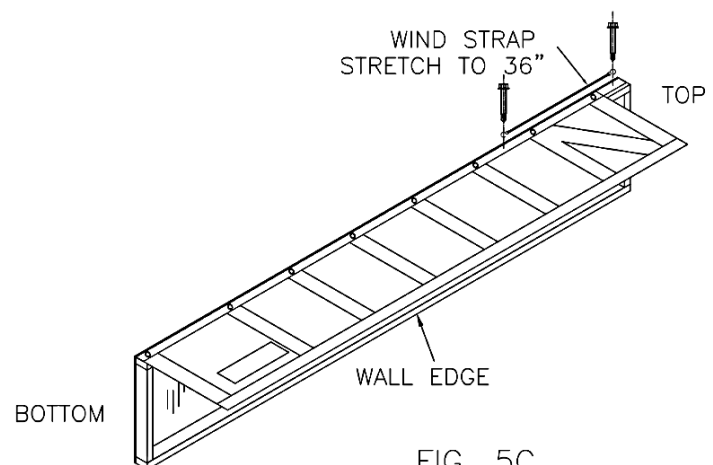

FIG. 5C
- Place Wind Strap "S" hook** at hole at top of Vertical Frame (Figure 5c).